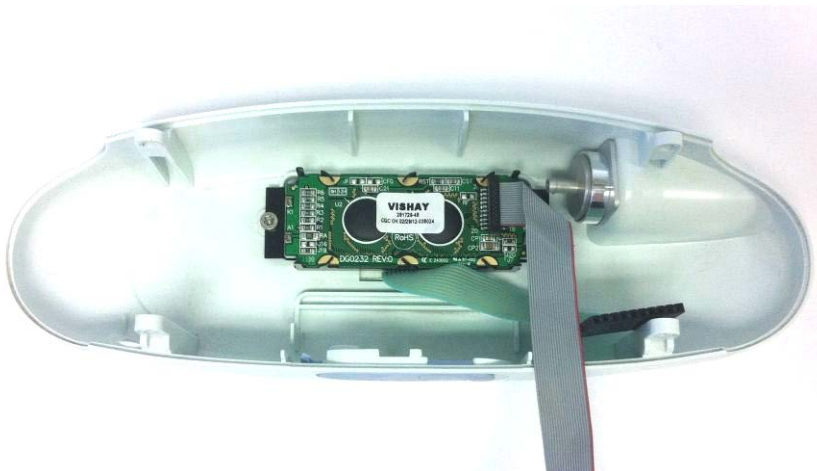

Figure 9: Orientation of LCD cable
1. Remove the power cable from the user interface panel and install the new LCD cable. Fold the cable as shown in Figure 9. *Note the location of the red wire.*